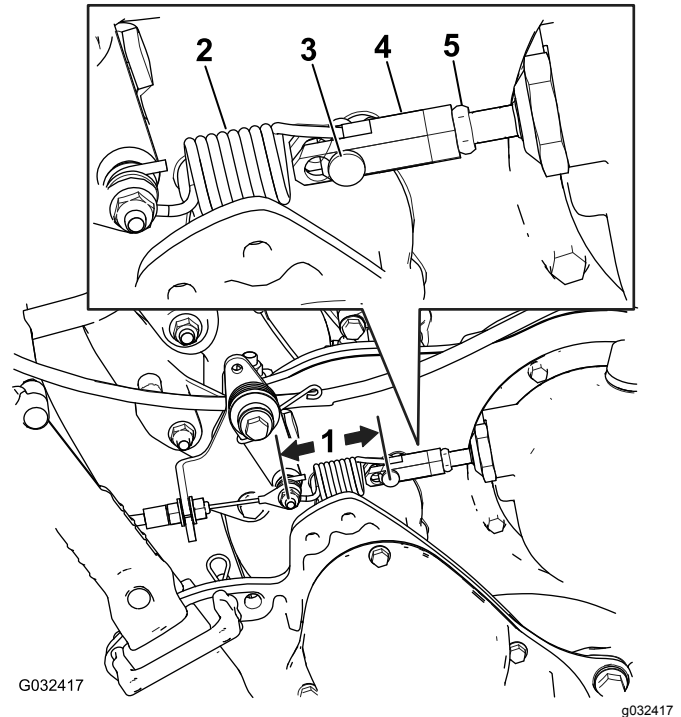

Figure 49
2. Measure the distance from the pin on either end of the traction-control spring (Figure 49); if it is not within 7.3 to 7.6 cm (2-7/8 to 3 inches), adjust the clutch according to the steps below.
- B. Loosen the jam nut on the turnbuckle and remove the clevis pin, disconnecting the spring from the turnbuckle (Figure 49).
- F. Measure the distance from the pin on either end of the traction-control spring (Figure 49); repeat steps A through F until it is within 7.3 to 7.6 cm (2-7/8 to 3 inches).